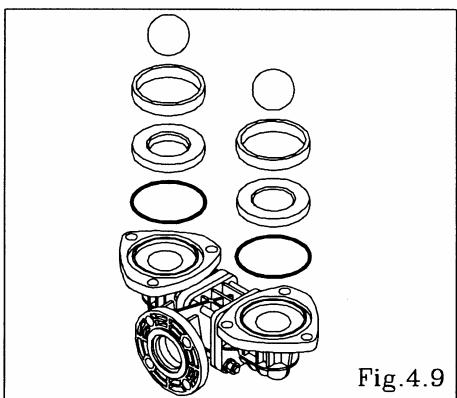

Fig.4.9
- Remove the ball, valve guide (only NDP-80), valve seat and O ring. [Fig.4.9]